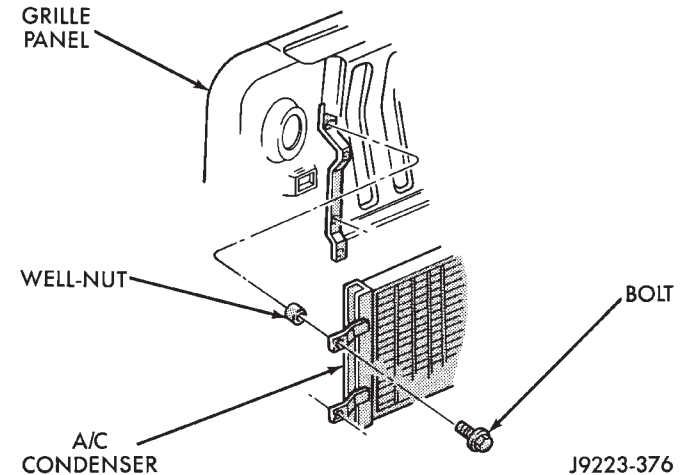

Fig. 47 Condenser Mounting Bolts—YJ Models
- (3) Remove the A/C condenser mounting bolts (Fig. 47).